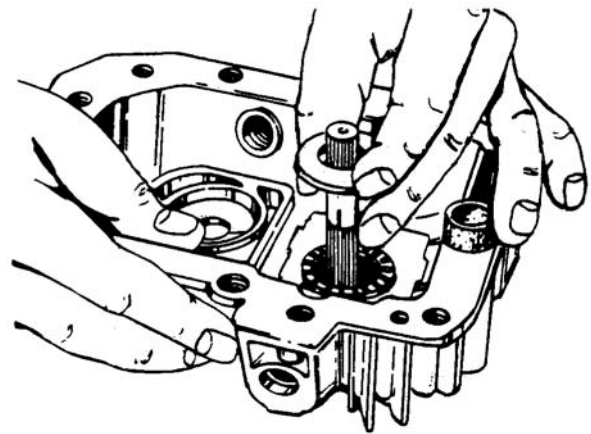
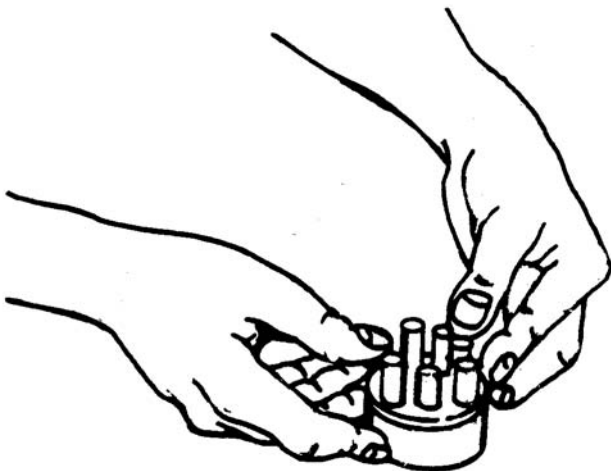

Figure 6-50. Installing Thrust Plate and Thrust Roller
Figure 6-54. Checking Movement of Pistons in Bores
- a. Place thrust plate and thrust roller into swash plate. See Figure 6-50.
- b. Check to be sure pistons are free in bores (pump, motor). See Figure 6-54. Figure 6-50. Installing Thrust Plate and Thrust Roller